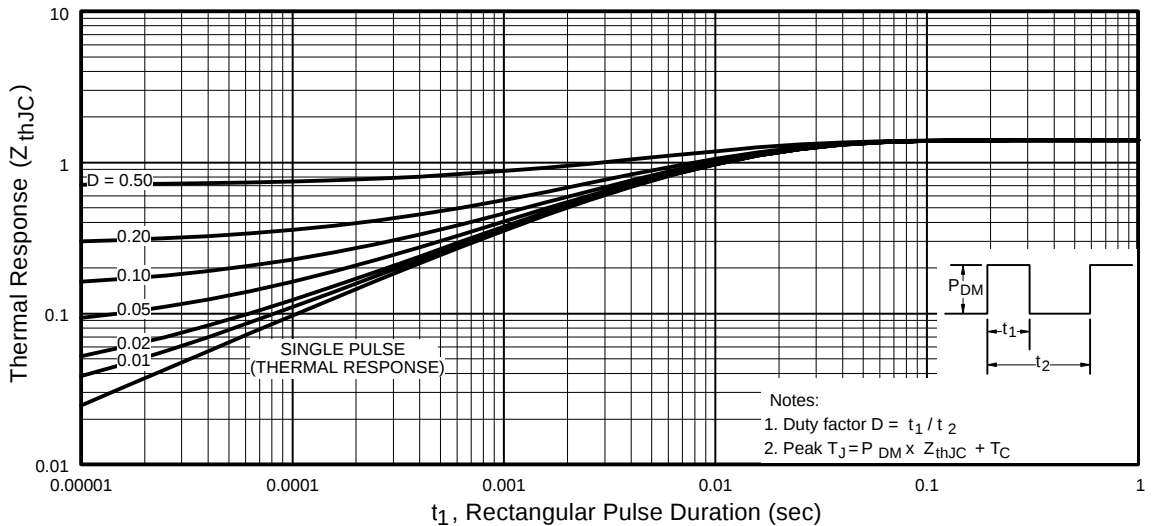

Fig 11. Maximum Effective Transient Thermal Impedance, Junction-to-Case
① Repetitive rating; pulse width limited by max. junction temperature. (See fig. 11)
④ Pulse width $\leq 300\mu s$; duty cycle $\leq 2\%$.
② Starting $T_J = 25^\circ\text{C}$, $L = 520\mu H$